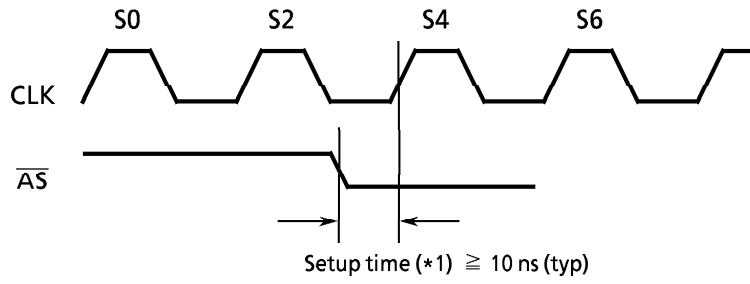

Figure 10.4 $\overline{A5}$ Signal Setup Time during Emulation
- (1) As TMP68301A does not have E, $\overline{\text{VPA}}$, and $\overline{\text{VMA}}$ signals for controlling 8-bit peripheral devices, the VPA input to the emulator must be pulled-up.
- (2) The 68000 interrupt vector automatic generation function cannot be used because TMP68301A does not have a $\overline{\text{VPA}}$ signal. However, TMP68301A has a similar function in its internal interrupt controller. For interrupt requests from external devices, use the interrupt input pins INT0 to INT2 connected to the interrupt controller.
- (3) The $\overline{\text{DTACK}}$ and $\overline{\text{BERR}}$ signals are open drain outputs in EMU mode. Therefore, the $\overline{\text{DTACK}}$ and $\overline{\text{BERR}}$ signals generated on the target board must also be open drain outputs and pull-up resistors must be provided. At *2 in the figures, high resistance can result in slow rise times and cause operational problems. Therefore, use resistances of about 1K ohms.
- (4) The following problems can occur due to a slow rise time for the $\overline{\text{AS}}$ signal output from the general-purpose 68000 emulator.
- If the $\overline{\text{AS}}$ signal setup time (*1 in Figure 10.4) does not satisfy the specification, the operation of the $\overline{\text{DTACK}}$ automatic generation function may be impaired and $\overline{\text{DTACK}}$ may not be asserted. (If $\overline{\text{DTACK}}$ is not asserted, the bus cycle does not complete and a bus error is generated.) (Figure 10.4)